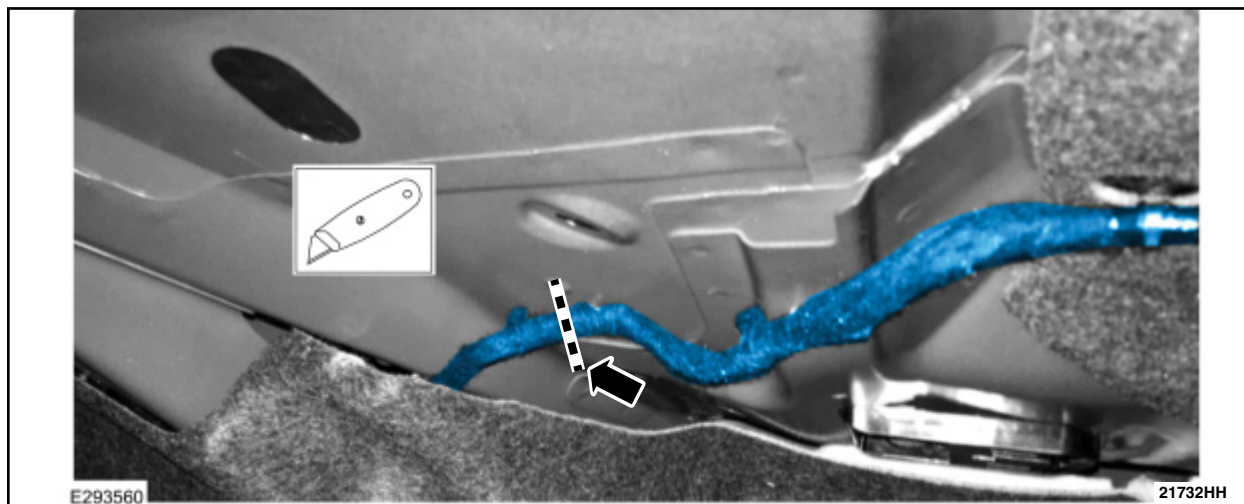

FIGURE 11
22. Cut out the damaged section of the harness. Make the cut at the location of the harness noted. See Figure 11.